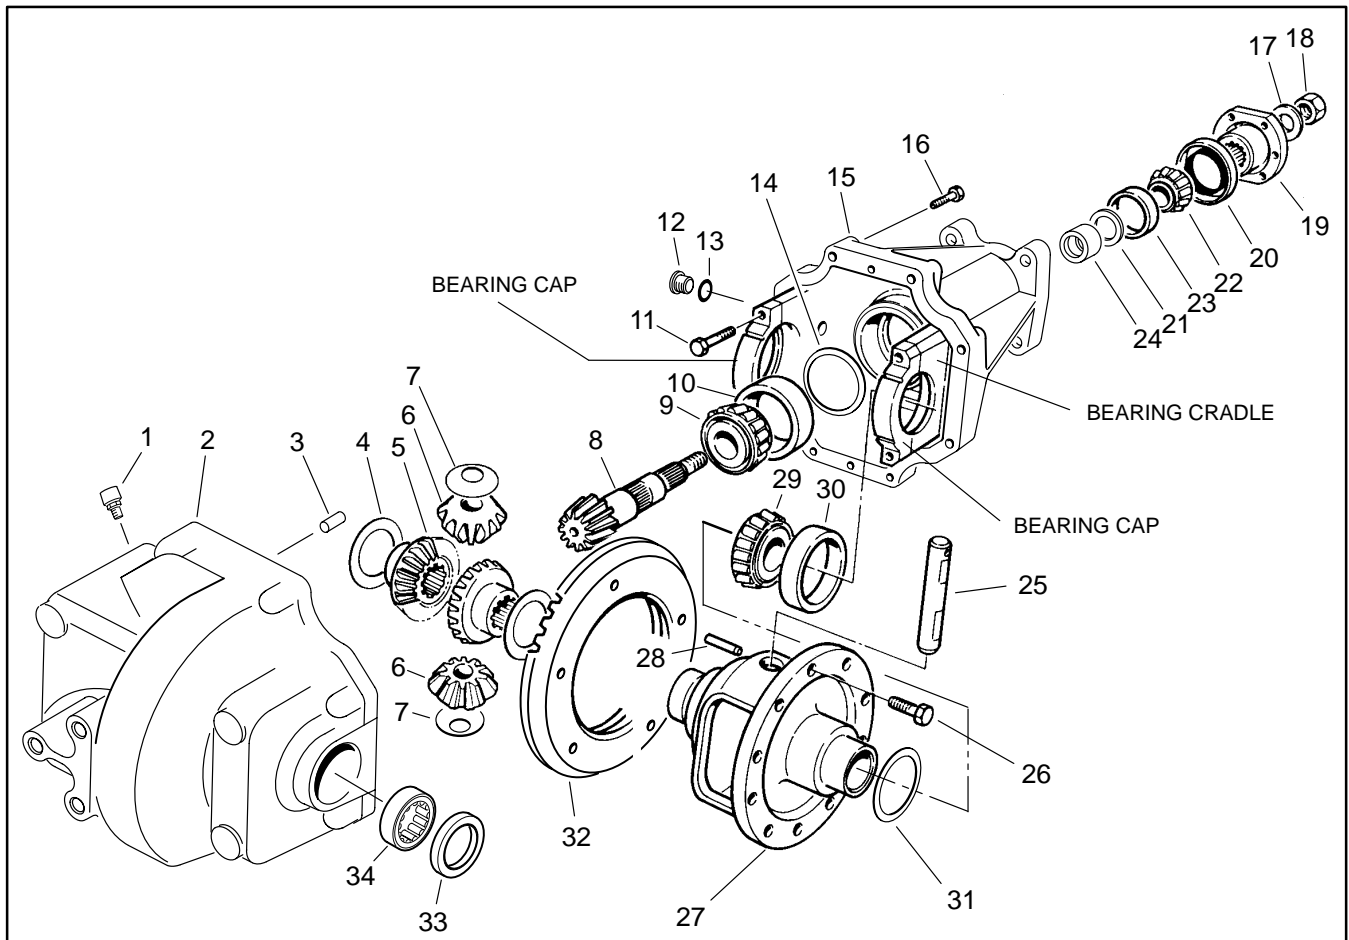

Figure 21
### Disassembly (Fig. 21)
#### Inspection (Fig. 21)
**Assembly (Fig. 21)**
**Note:** Part numbers in parentheses ( ) correspond to the part numbers in Figure 21.